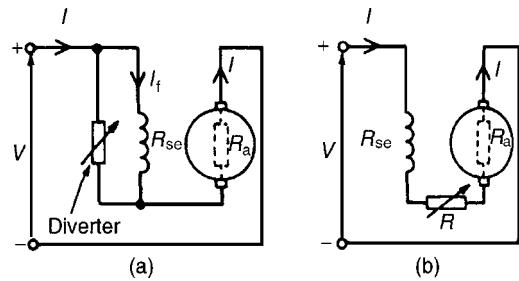

Figure 22.30
where  $k$  is a constant,  $V$  is the terminal voltage,  $R$  is the combined resistance of the armature and series field and  $\Phi$  is the flux. Thus, a reduction in flux results in an increase in speed. This is achieved by putting a variable resistance in parallel with the field winding and reducing the field current, and hence flux, for a given value of supply current. A circuit diagram of this arrangement is shown in Fig. 22.30(a). A variable resistor connected in parallel with the series-wound field to control speed is called a **diverter**. Speeds above those given with no diverter are obtained by this method. Problem 29 below demonstrates this method.
- (b) Speeds below normal are obtained by connecting a variable resistor in series with the field winding and armature circuit, as shown in Fig. 22.30(b). This effectively increases the value of  $R$  in the equation
With the  $0.2\Omega$  diverter in parallel with  $R_{se}$  (see Fig. 22.30(a)), the equivalent resistance,
$$I_1 \text{ (in Fig. 22.30(a))} = \left( \frac{0.2}{0.2 + 0.05} \right) I = 0.8I$$
With reference to Fig. 22.30(b), at 800 rev/min,